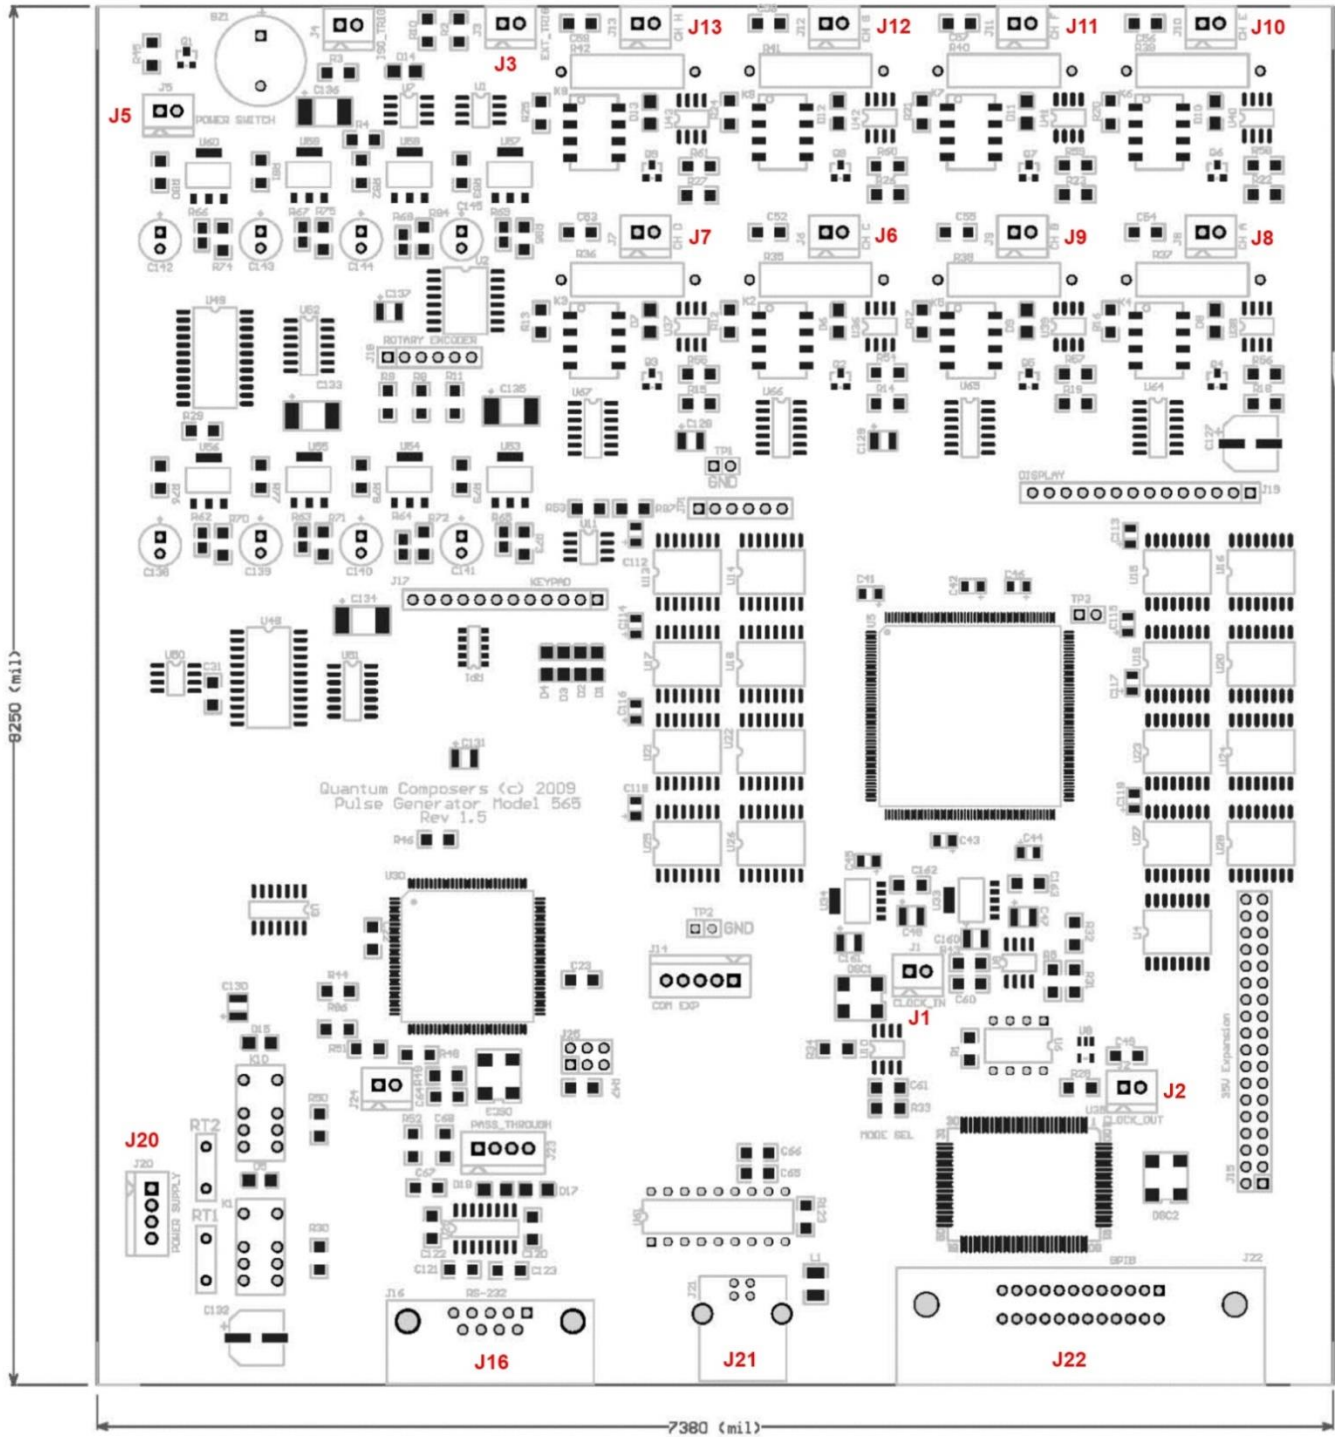

Figure 2 – Component/Connector layout
- The 8510 channel outputs are individually labeled and can be seen below in Figure 2.
- All other specified connectors shown in Figure 2 can be used for the implementation of additional features, but are not required during basic setup and pulsing.